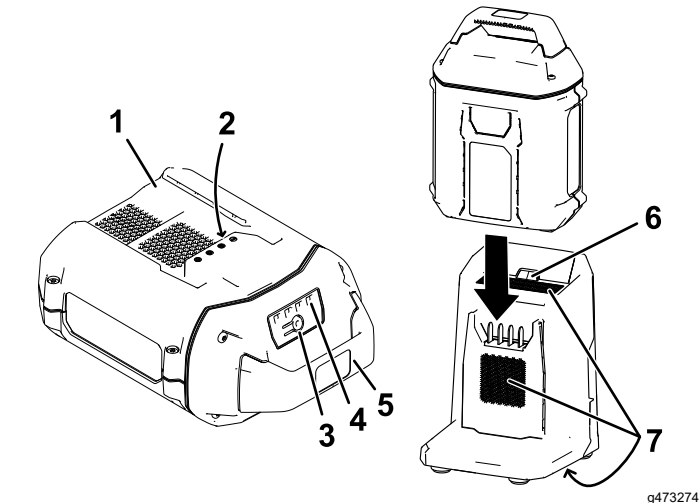

Figure 15
2. Line up the cavity in the battery pack (Figure 15) with the tongue on the charger.
3. Slide the battery pack into the charger until it is fully seated (Figure 15).